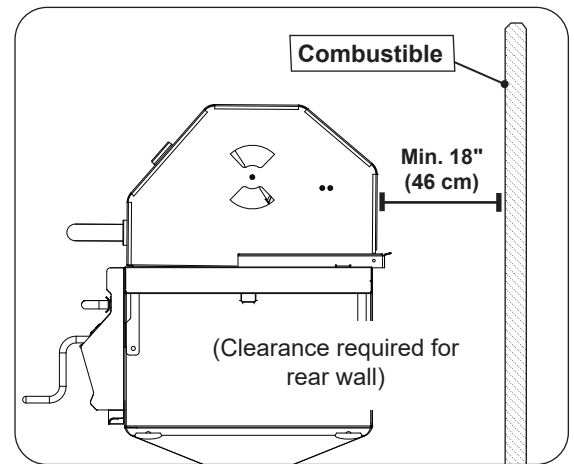

Fig. 5-2 Clearance 'B' Diagram
- The unit must have a minimum clearance of 18" (46 cm) from the combustible rear wall (see Fig. 5-2).